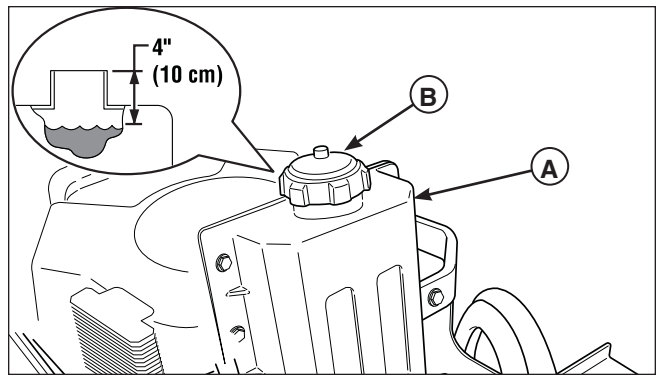

Figure 19. Checking Hydraulic Oil Level
2. Unscrew the reservoir cap (**B, Figure 19**).